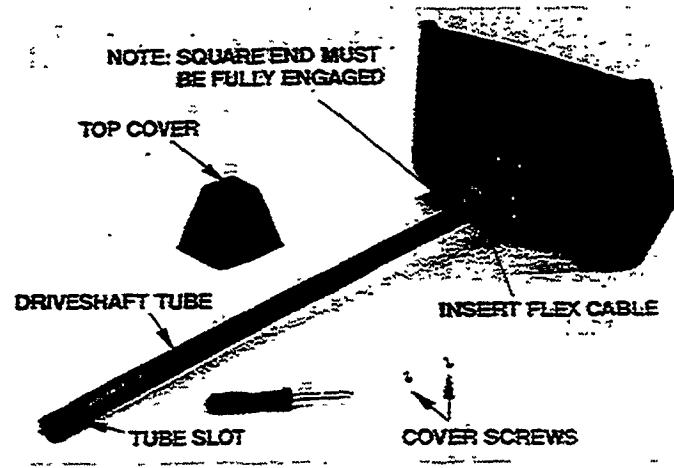

Figure 40
- Using a Phillips screwdriver, remove the two (2) screws holding the top cover (Fig. 40). Remove the cover.
- Slide the flex cable **partially** out of the non-slotted end of the tube and insert its square end into the drive gear of the snow thrower. Make certain the squares of the flex cable and the drive gear are engaged before proceeding (Fig. 40).